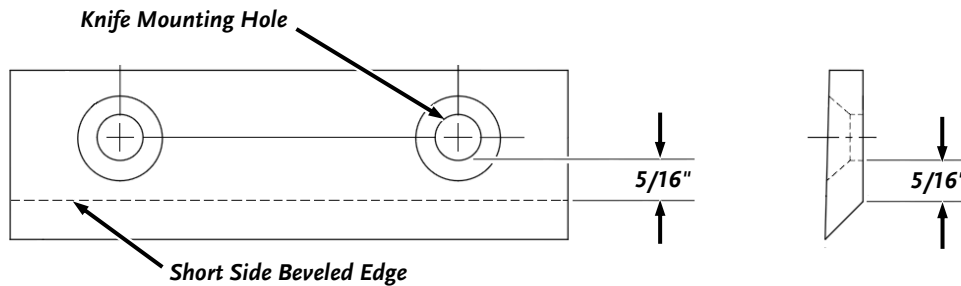

Figure 24: New Knife
- A new Chipper Knife has a $5/16"$ measurement between the short side bevel edge and the Knife mounting holes (**Figure 24**).